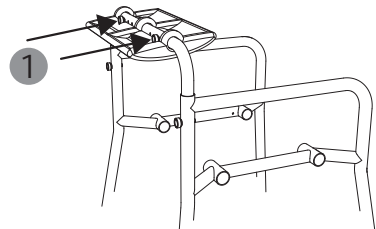

Fig. 7
6. The bolts on the rear of the cushion are now readily accessible and can be easily pulled out of the cushion (1, Fig. 7).